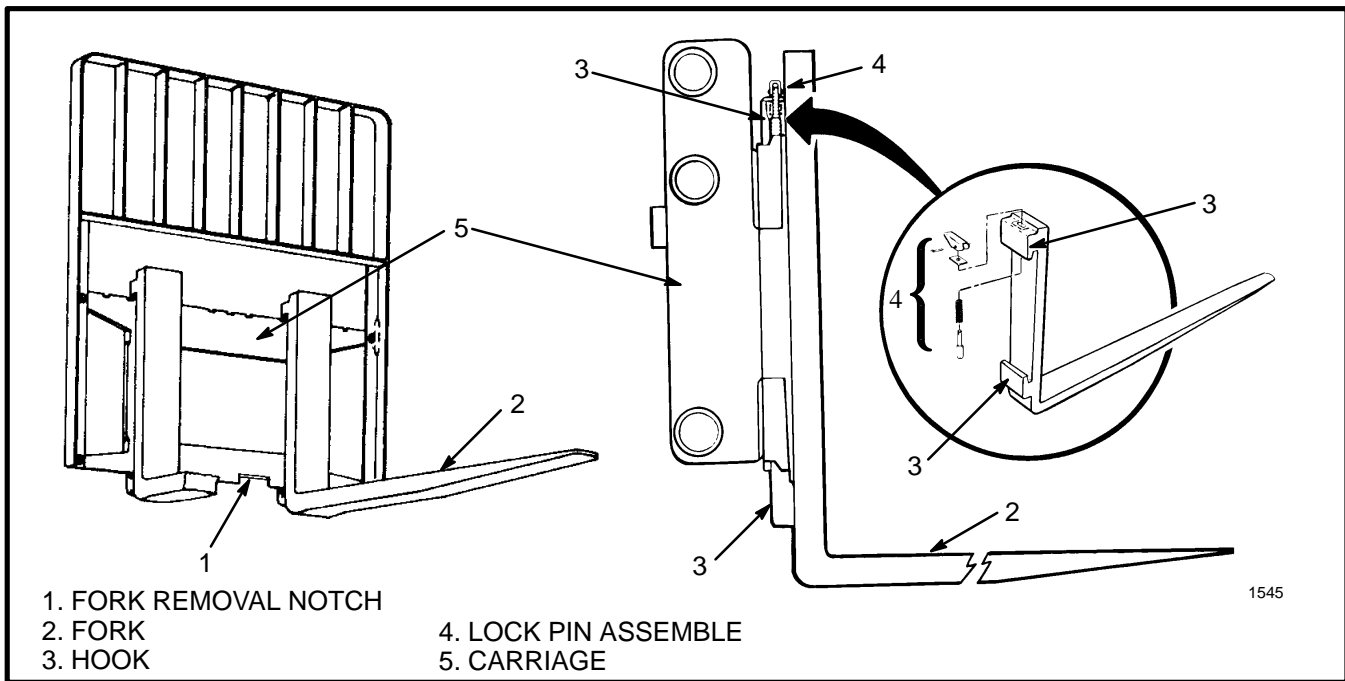
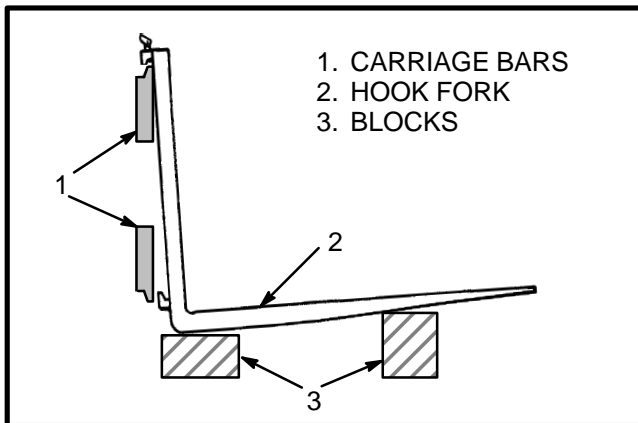

FIGURE 10. HOOK FORK
FIGURE 11. REMOVE A HOOK FORK
Hook forks are connected to the carriage by hooks and lock pins. See FIGURE 10. These lock pins are installed through the top fork hooks and fit into slots in the top carriage bar. Adjust the forks as far apart as possible for maximum support of the load. Hook forks will slide along the carriage bars to adjust for the load to be lifted. Raise the lock pin in each fork to slide the fork on the carriage bar. Make sure the lock pin is engaged in the carriage bar to lock the fork in position after the width adjustment is made.
**Hook Fork (Removal).** Slide a hook fork to the fork removal notch on the carriage. See FIGURE 10. Lower the fork onto blocks so that the bottom hook of the fork moves through the fork removal notch. See FIGURE 11. Lower the carriage further so that the top hook of the fork is disengaged from the top carriage bar. Move the carriage away from the fork, or use a lifting device to move the fork away from the carriage. Lay the fork on its side so that it cannot fall and cause injury.